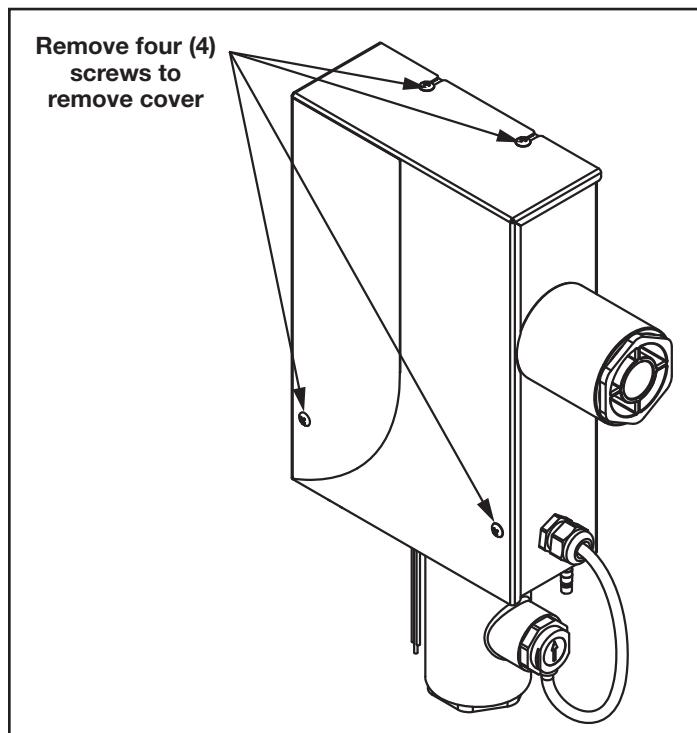

Figure 1. Remove Jandy Offline AOP Cover
2. Use a Phillips-head screwdriver to remove the four (4) screws holding the top cover. Set aside for reassembly. See Figure 1.